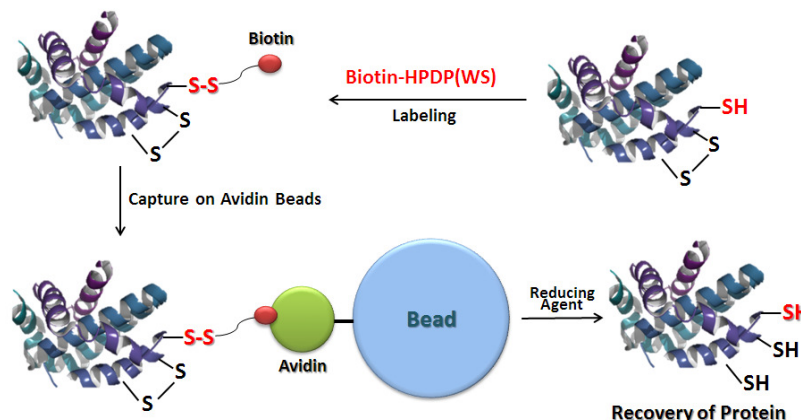

Fig. 1 Schematic Protocol for Biotin Labeling with Biotin-HPDP(WS) and Purification of the Biotinylated Protein
Biotin-HPDP is a conventional reagent to introduce a biotin moiety to a sulfhydryl group of protein via reversible disulfide bond. This reagent is useful for affinity-purification of biotinylated proteins by using avidin-coated beads, because the disulfide bond is cleavable by a reducing agent (Fig.1). Thus, Biotin-HPDP has been widely used for biotin switch assay, which is an analytical technique for protein thiol modifications such as s-nitrosylation, s-sulfhydration, and s-palmitoylation. However, preparation of the solution is time-consuming due to the low-solubility in water, even DMSO and DMF. Therefore, Biotin-HPDP(WS) solution was developed to improve the solubility of Biotin-HPDP.
-SulfoBiotics- Biotin-HPDP(WS) solution is an easy-to-use aqueous solution including 20mmol/l Biotin-HPDP(WS).